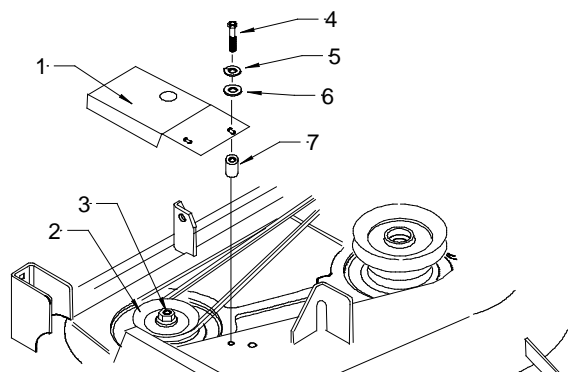

Figure 1
3. Remove the right side spindle pulley by unscrewing the spindle nut (fig. 1).
4. Install the belt guard in its original place with three 0.50" spacers, 1/4" x 1.00" bolts, flat and lockwashers. Tighten securely (fig. 1).